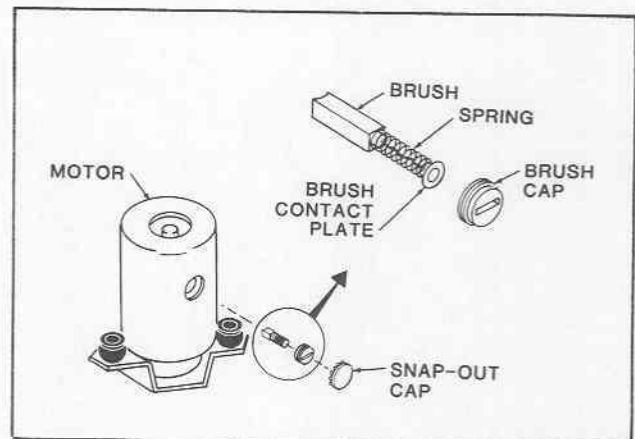

Figure 5-7. Brush Assembly Removal
- d. Refer to Figure 5-7, and unscrew slotted brush caps from inside motor enclosure. Brush contact plate should spring out when brush cap is removed; if not, use small screwdriver carefully to pry out brush assembly.